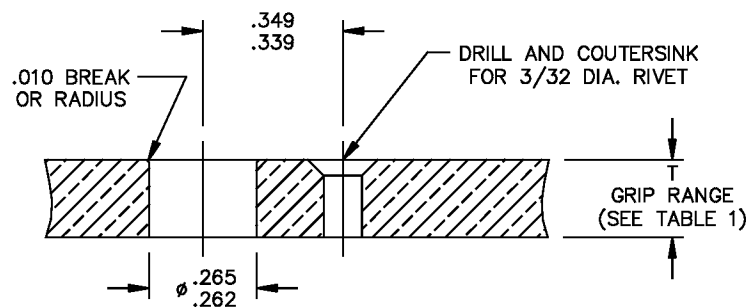

FIGURE 1
1. PREPARE PANEL HOLES AS SHOWN IN FIGURE 1.